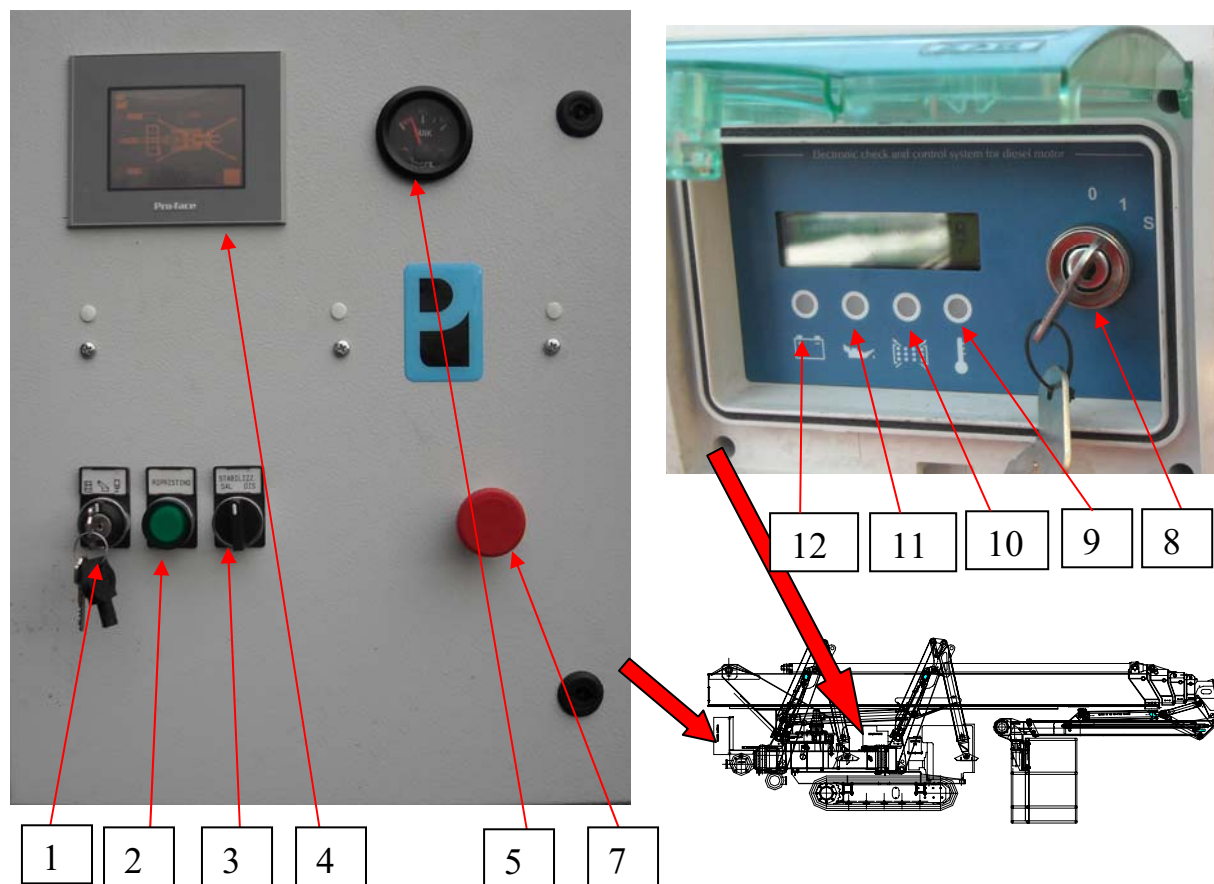
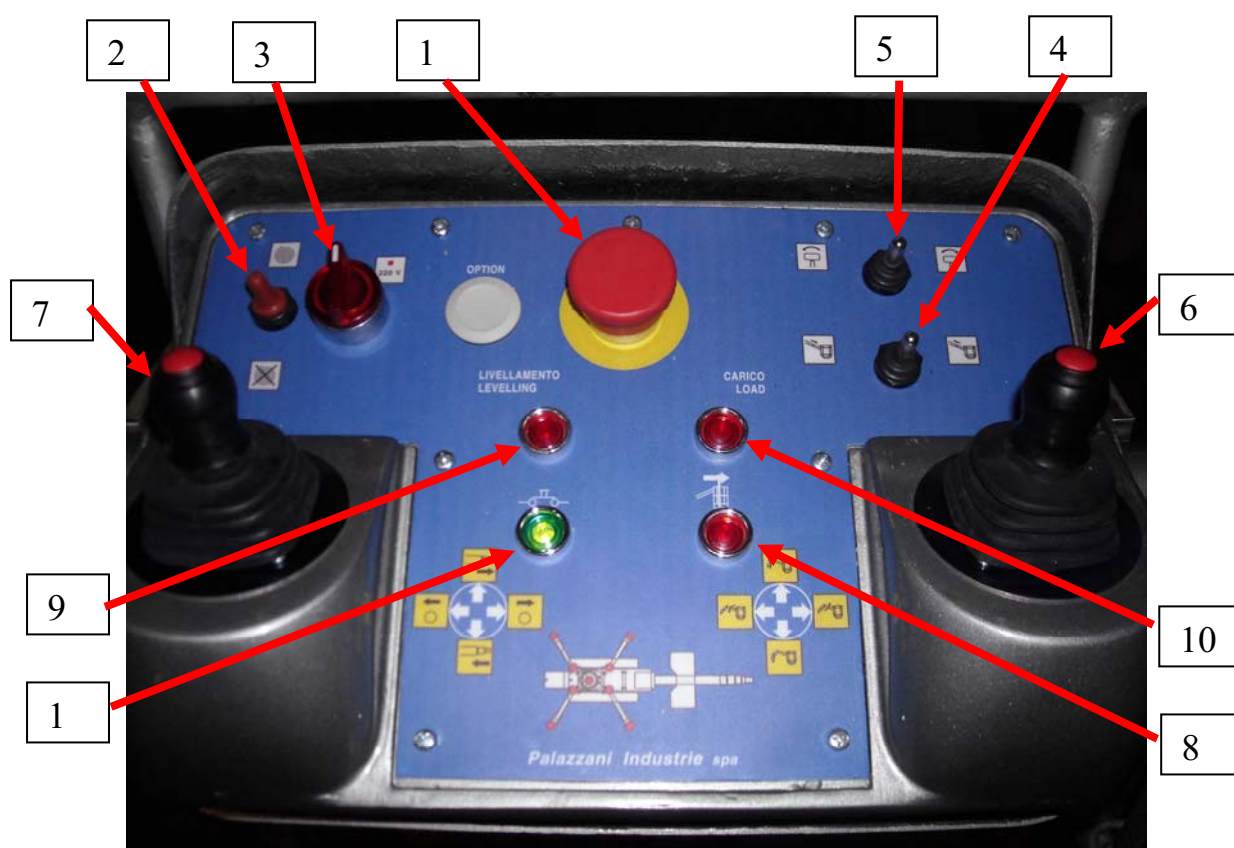

Fig. 3.2
Fig. 3.7
- turn the selecting key of the ground control panel on the "stabilizing-legs" symbol (part 6 of Fig. 3.2)
- on main control desk (Fig. 3.2) rotate the key (item 8) on pos. 1 (oil and el. tension warning lights)
- it is possible to start engine also from control panel on cage by turning the key switch 2 of Fig. 3.7 if the stabilisers are on the ground and the controls selected on the above mentioned panel (key 1 in fig. 3.2 selected on cage symbol).